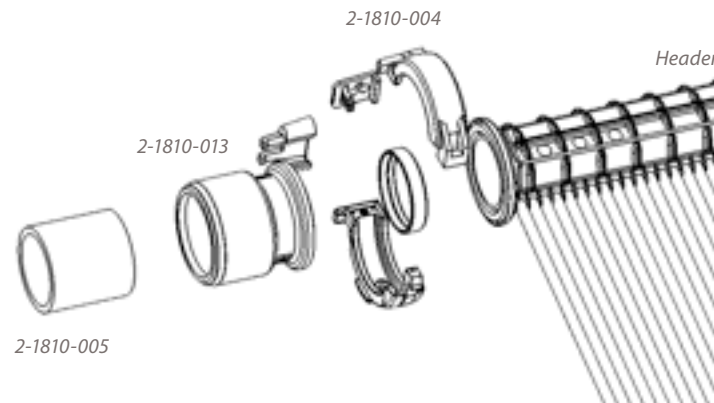

Fig. 11.1
3. Cement the PVC pipe to the (2-1810-005) pipe connector as shown in Fig. 11.1.
4. The (2-1810-005) Pipe Connector allows (1) ½" PVC Pipe or a (1) ½" St. 90 to be glued directly into the socket, or a 2" PVC 90 to be glued on the outside. CPVC or **multi-purpose glue** should be used when attaching PVC fittings or pipe to the pipe connectors to provide for a durable connection. A 90 degree PVC fitting and vertical pipe run of at least 5' should always be attached to the return line pipe connector to allow for lateral expansion and contraction of the return line pipe run.